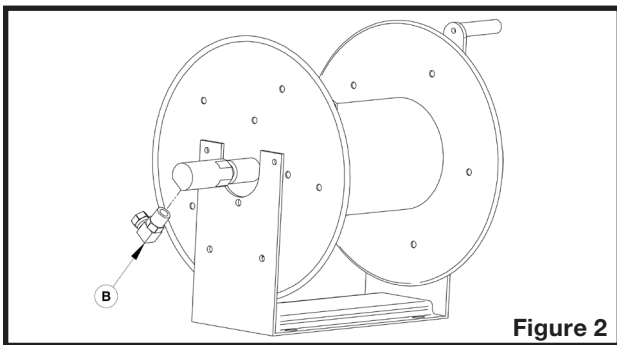

Figure 2
2. Install the hydraulic elbow fitting (B on figure 2) to the reel entry.